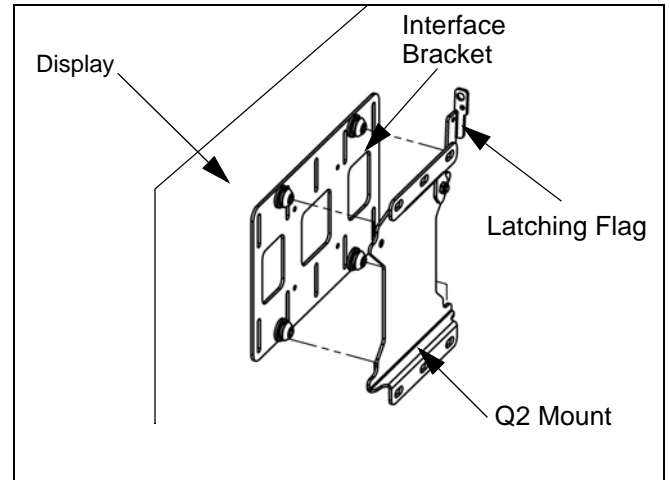

Figure 4:
1. Install flat panel display, with interface plate attached, on Q2 mount (see Figure 4).